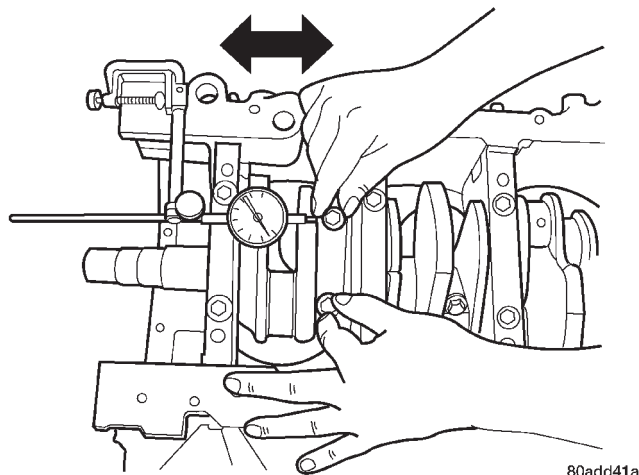

Fig. 15 Connecting Rod Side Clearance Measuring
(2) Necking can be checked by holding a scale or straight edge against the threads. If all the threads do not contact the scale the bolt should be replaced.
(3) Before installing the nuts the threads should be oiled with engine oil.
(4) Install nuts on each bolt finger tight then alternately torque each nut to assemble the cap properly.
(5) Tighten the nuts to 54 N·m PLUS 1/4 turn (40 ft. lbs. PLUS 1/4 turn).
(6) Using a feeler gauge, check connecting rod side clearance (Fig. 15). Refer to Connecting Rod Side Clearance Chart for specifications.